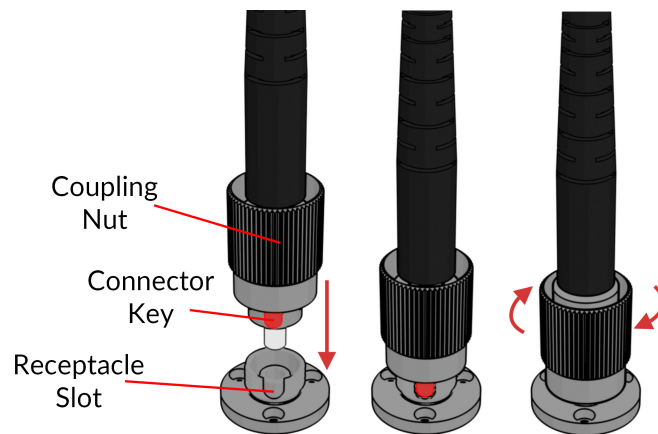

Figure 2.5: FC connector, Fiber Installation
2. With an FC connector, the connector key must be oriented to enter within the receptacle slot to ensure proper connection (Fig. 2.5).